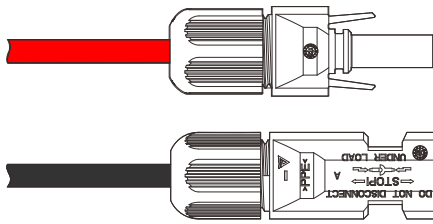

Figure3-19 Tighten the lock nut
Step 4 Tighten the locking nuts of the positive and negative connectors to corresponding insulating shells, as shown in Figure3-19.